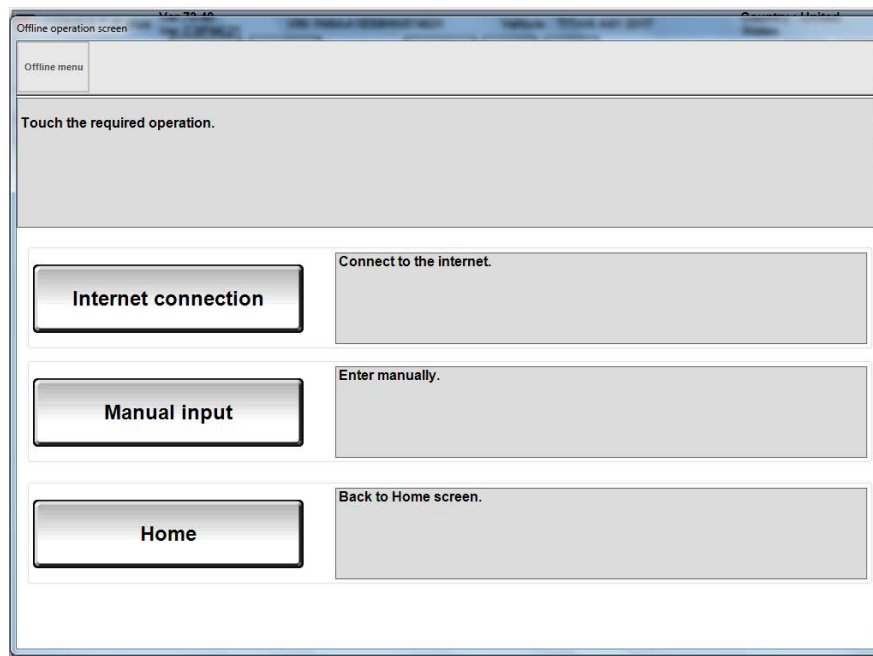

Figure 14
- If the CONSULT PC is not connected to the Internet, the screen in Figure 14 will display.